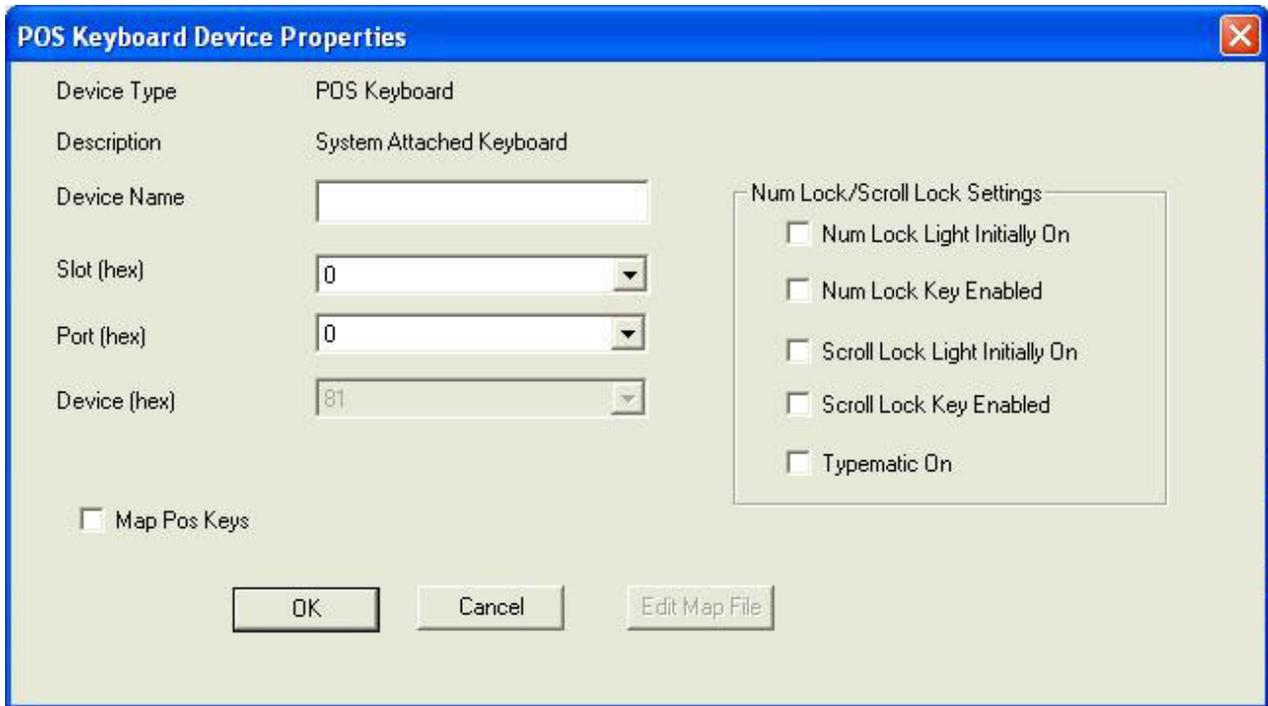

Figure 26. Keyboard properties dialog
1. Select a POS keyboard entry and click **Configure**. The keyboard configuration dialog is displayed (see Figure 26 on page 151).